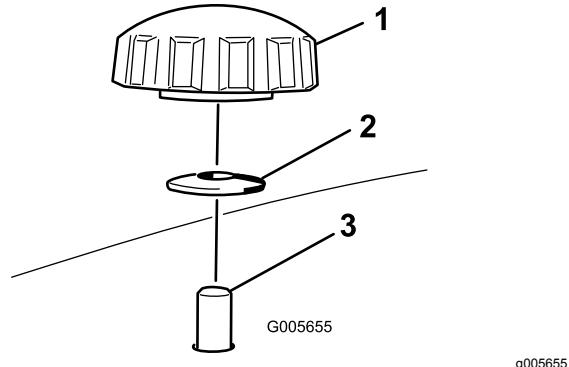

Figure 26
4. Remove the 2 knobs and curved washers that secure the right baffle to the mower (Figure 26).
5. Remove the right baffle and lower the grass deflector over the discharge opening (Figure 26 and Figure 27).
(cupped side facing the mower) as shown in Figure 26 and Figure 27.